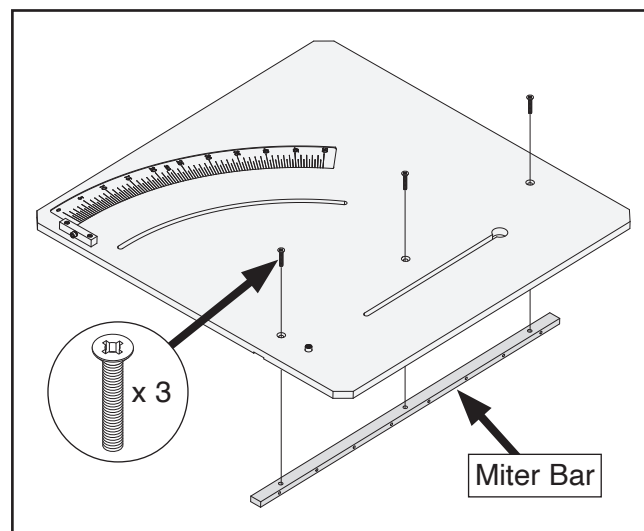

Figure 5. Attaching miter bar to sled.
5. Attach miter bar to sled with (3) $\frac{1}{4}$ "-20 x $\frac{3}{4}$ " flat head screws (see **Figure 5**).